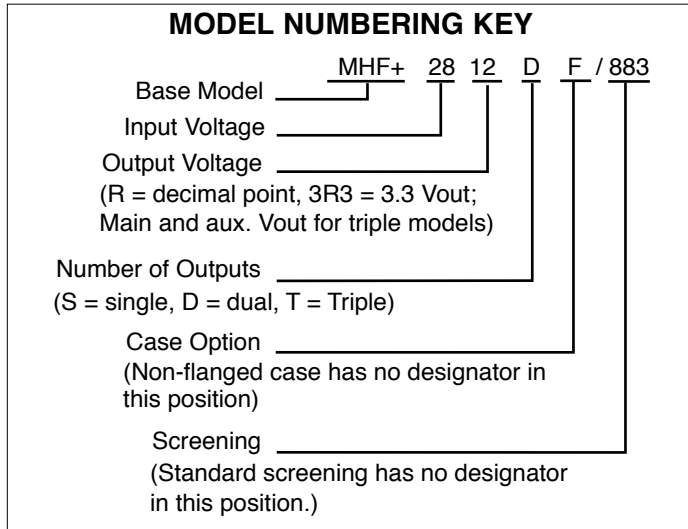

FIGURE 10: MODEL NUMBERING KEY
- See Figure 10 on page 7 above for an example of a model number.